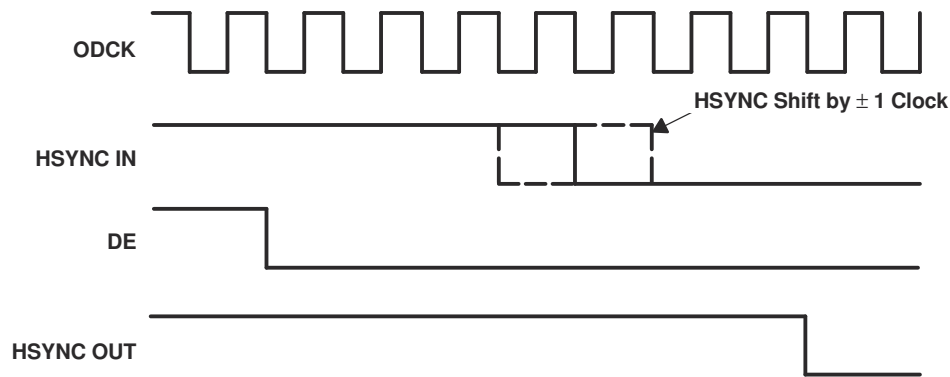

图 7-3. HSYNC Regeneration Timing Diagram
The TFP401A-Q1 integrates HSYNC regeneration circuitry that provides a seamless interface to these noncompliant transmitters. The regeneration circuitry always fixes the position of the data enable (DE) signal in relation to data, irrespective of the location of HSYNC. The TFP401A-Q1 receiver uses the DE and clock signals to recreate stable vertical and horizontal sync signals. The circuit filters the HSYNC output of the receiver and shifts HSYNC to the nearest eighth bit boundary, producing a stable output with respect to the data, as shown in 图 7-3. This ensures accurate data synchronization at the input of the display timing controller.